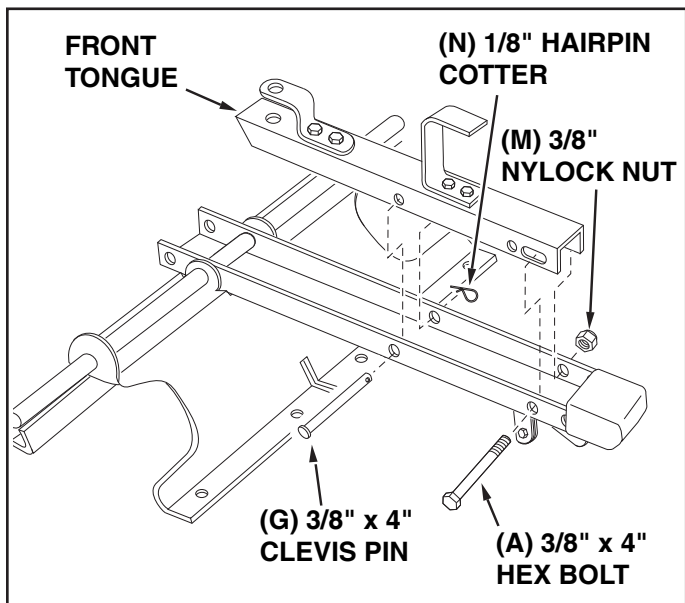
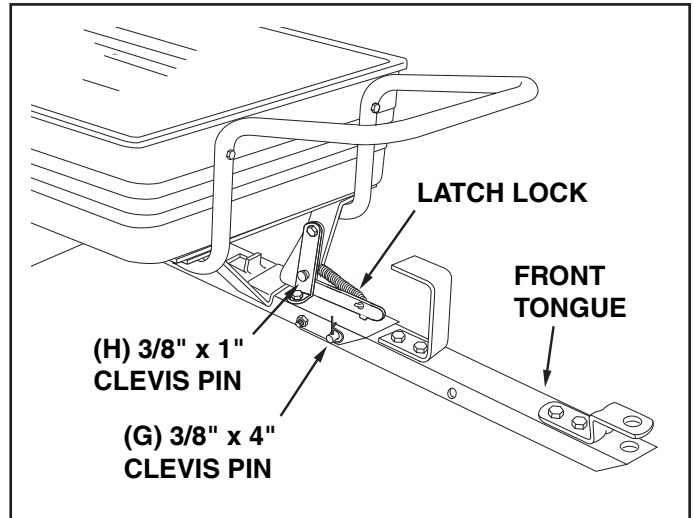

FIGURE 5
FIGURE 10
10. Place the front tongue inside the rear tongue as shown in figure 5. Fasten the tongues together using a 3/8" x 4" hex bolt (A) and a 3/8" nylock nut (M). **Tighten,** leaving the nut just loose enough that the tongues can pivot freely. See figure 5.
11. Insert the 3/8" x 4" clevis pin (G) through the tongues and secure with a 1/8" hairpin cotter (N), as shown in figure 5.
1. To convert the cart for towing, remove the plastic cap from the tongue. Remove the 4" long clevis pin and hairpin cotter which secure the front tongue in storage position underneath the rear tongue. Pivot the front tongue outward and secure it in the towing position using the same clevis pin and hairpin cotter. Refer to figure 10 on page 7.
1. To convert the cart for push operation, remove the 4" long clevis pin and hair cotter pin which secure the tongue in the towing position. (See figure 10 on page 7.) Pivot the front tongue into the storage position underneath the rear tongue and secure it using the 4" long clevis pin and hair cotter pin. (Refer to figure 5 on page 6.) Place the plastic cap over the exposed end of the tongue.